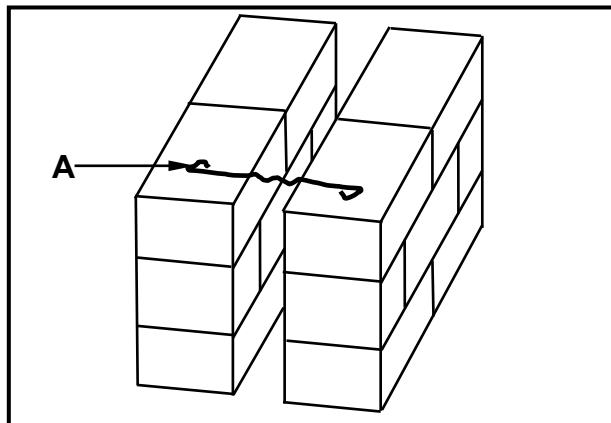

FIGURE 5.2
5.2 FIGURE 5.2 below shows part of a cavity wall.